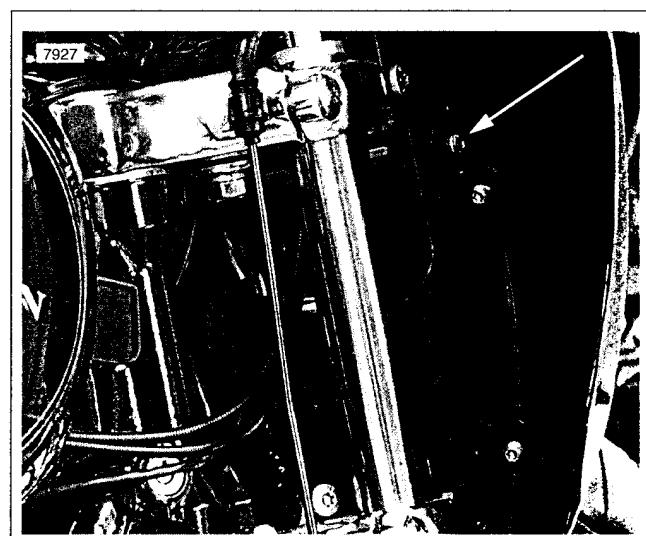

Figure 2-134. Attaching Gearbox to Fairing
4. See Figure 2-134. Attach gearbox mounting bracket to right fairing support bracket. Hand tighten screw.